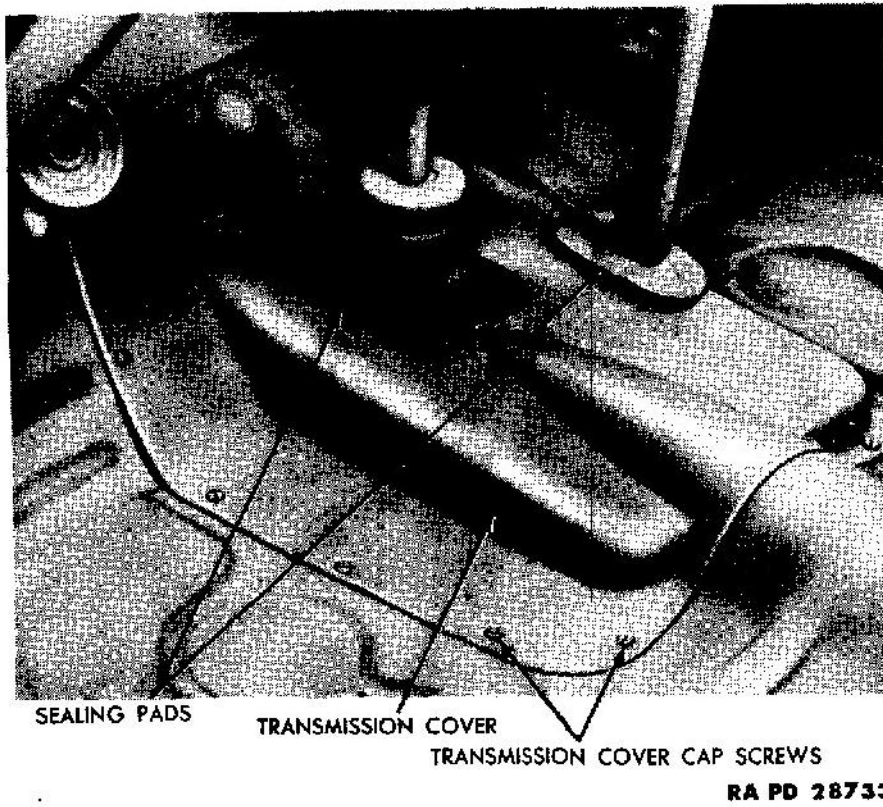

Figure 52 – Transmission Cover
(1) **PRELIMINARY WORK.** Remove the seat cushion (par. 138 b). Remove the cap screws which secure the transmission cover to the floor (fig. 52). Remove the cover. Place a jack under the rear of the engine at the flywheel housing, using a block of wood between the flywheel housing and the jack. Raise the jack until the engine is supported by the jack. Remove the coupling shaft support bearing (par. 106). Remove the nuts from the four bolts which attach the front universal joint to the hand brake drum. Remove the coupling shaft.